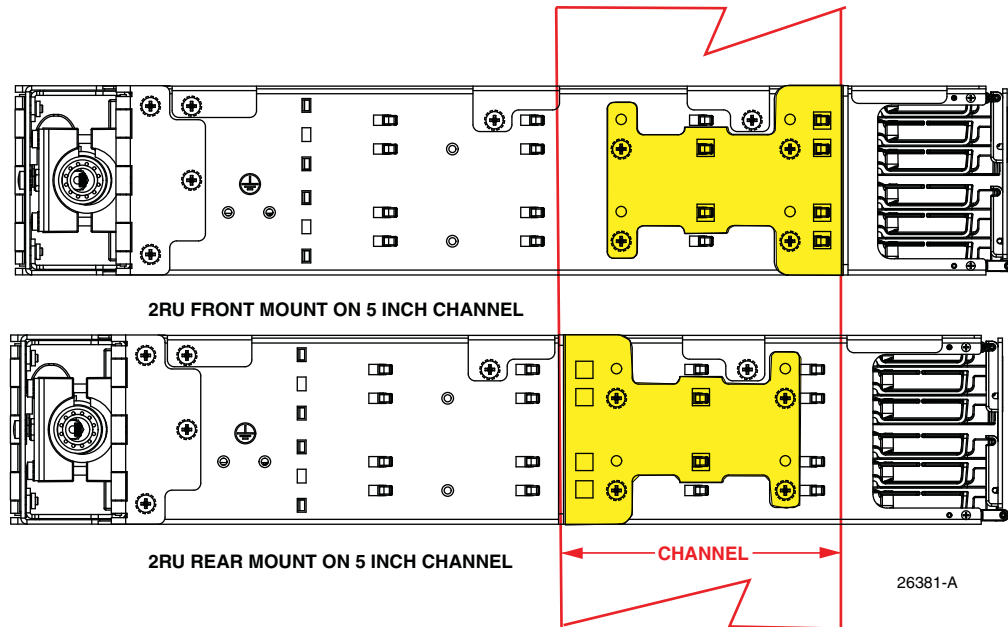

Figure 12. 2RU Mounting Bracket Positions (Front and Rear on 5-Inch Channel)
- Figure 12 for 2RU mounting on a 5-inch channel;